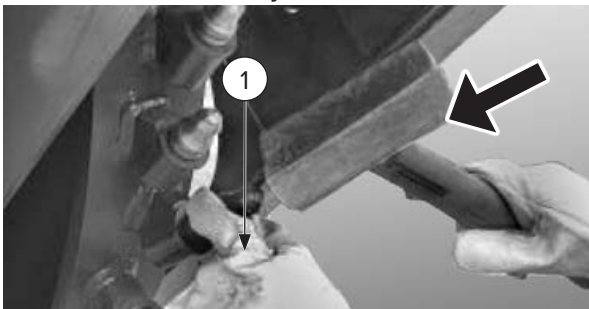

Figure 23
2. Insert the tooth [Figure 23, Item 1] into its holder using light blows with a copper hammer until the tooth is fully inserted.